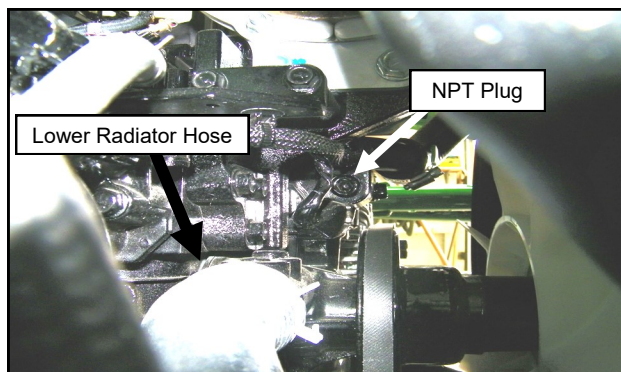

Fig. 17.4a (Remove NPT Plug from Engine)
- 17.4 Remove the NPT plug from the front of the engine and install the block adapter with Teflon tape. See Figures 17.4a and 17.4b.